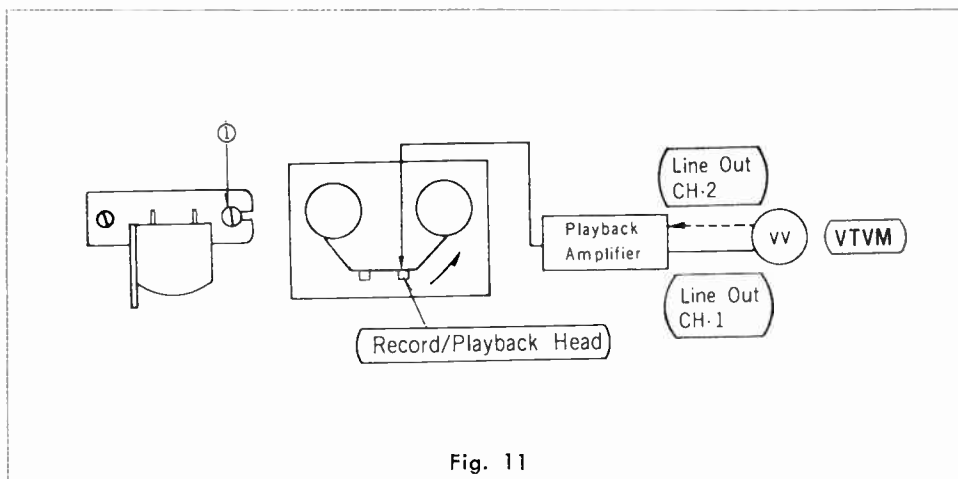

Fig. 11
Connect wires as shown in Fig. 11, thread the tape and
place the tape recorder into the playback mode. Turn either of the angle adjustment screw ① in Fig. 11 by a 1/4 turn, and make the adjustment so that the reading on the VTVM connected to the line out becomes maximum.